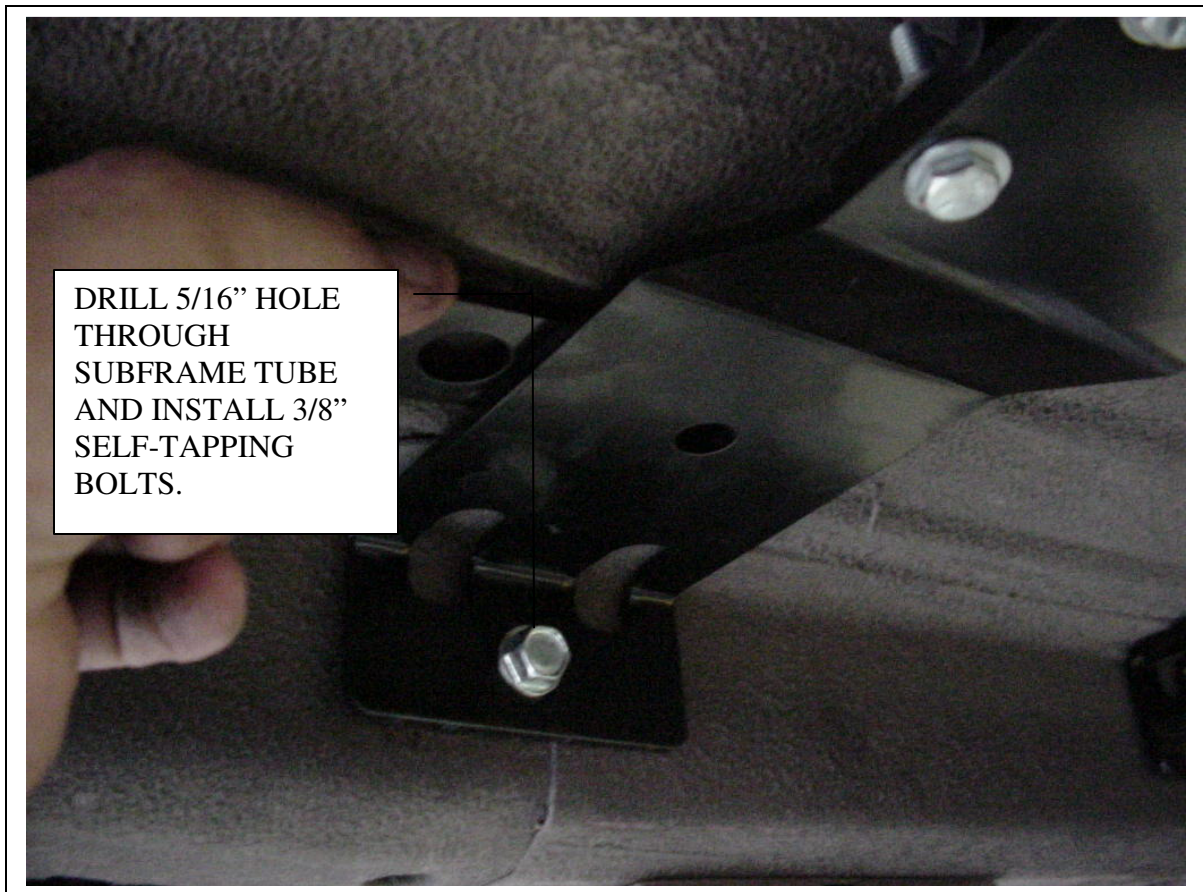

Figure 13, Sub frame holes.
- Using a drill motor and a 5/16 bit, drill a hole into the sub frame rails using the support brackets as a guide. Once the holes are drilled install the supplied 3/8" self-tapping bolts through the support brackets and the sub frame. **See Figure 13.**